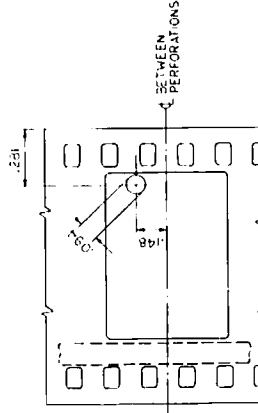
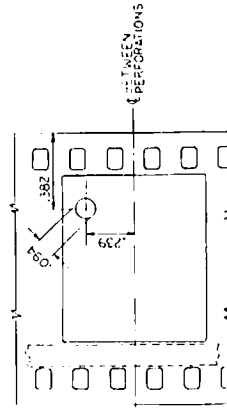

Fig. 6 Position of Cue Marks for Nonamorphic Release Prints Image as seen on the Screen
Fig. 7 Position of Cue Marks for Anamorphic Release Prints Image as seen on the Screen
6.2 Motor Cue. The motor cue shall consist of a black circular dot with a clear outline or a clear circular dot with a black outline, printed from a 35-mm negative which has had four consecutive frames punched with a die 0.094 in (2.39 mm) in diameter. The position of this cue mark for release prints with aspect ratios up to 1.85:1 shall be as shown in Fig. 6. The position of the cue mark for release prints with aspect ratios from 2.35:1 to 2:1 shall be as shown in Fig. 7.